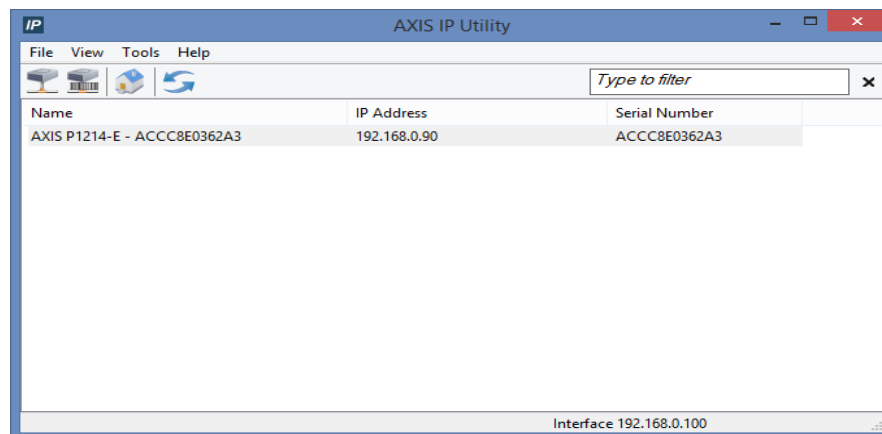

Figure 1: Detect Camera for Video Logging in Axis IP Utility
- Step 1: After connecting the camera to network, use axis IP utility (<http://www.axis.com/techsup/software/iputility/software.php>) to locate the camera. It will detect camera automatically and show camera details as in Figure 1.